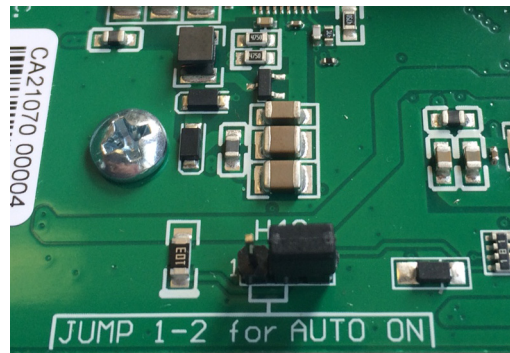

Figure 9-29: Normal power-on mode (jumper is in position 2-3).
- 4 Find the Auto-on jumper (Figure 9-29), which is located along the right-hand side of the circuit board (when looking at the unit from the front).